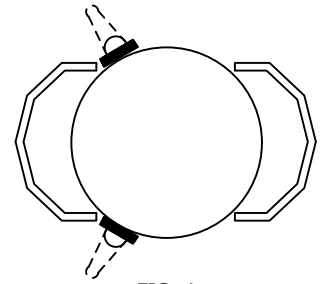

FIG. 4
- (A) TEMPORARY POLE STEP LAG PLATES ARE TO BE INSTALLED WHEREVER DOUBLE STEEL TRUSSES ARE INSTALLED ON A POLE OR IF OTHER OBSTRUCTIONS SUCH AS RISERS, FENCING, ETC. WILL PREVENT SAFE CLIMBING ON POLES WITH SINGLE TRUSSES. IF POLE IS A CLASS THREE OR LARGER, INSTALL LAG PLATES ALTERNATIVELY AT 18 INCH INTERVALS ON SAME SIDE OF POLE (SEE PAGE 374.1, FIG. 2). IF POLE IS SMALLER THAN CLASS THREE, INSTALL LAG PLATES ALTERNATIVELY ON OPPOSITE SIDES OF POLE AT 18 INCH INTERVALS (SEE FIG. 4). INSTALL LOWEST LAG PLATE AT 18 INCHES ABOVE GROUND AND UPPER-MOST LAG PLATE NO GREATER THAN 18 INCHES BELOW THE TOP OF THE STEEL TRUSSES, INCLUDING THE PROTECTIVE COVER.